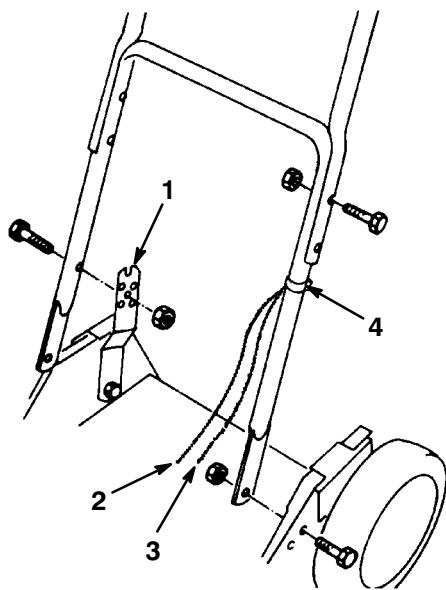

Figure 2
2. Align the center hole in the handle latch with the hole in the handle, and secure it in place with 5/16–18 x 1-1/2 in. cap screws and locknuts (Fig. 2).
Note: You can set the handle to one of three positions to best fit the operator's height. To set the handle height, move the cap screw into a different hole in the handle latch (Fig. 2).